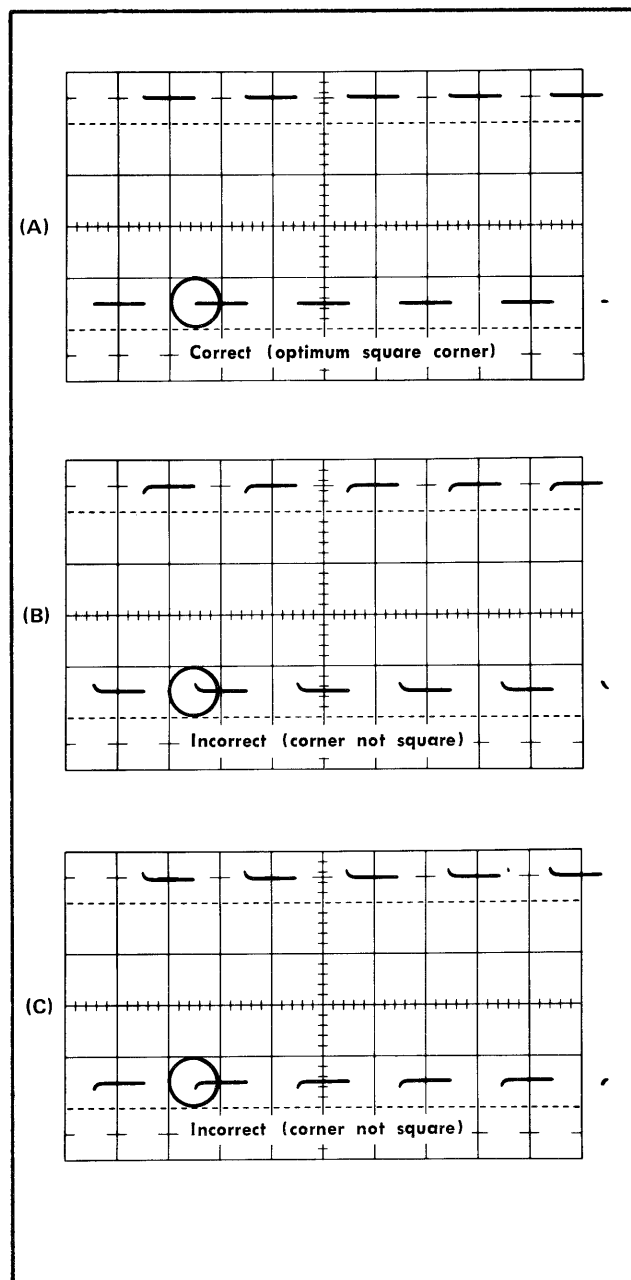

Fig. 5-8. Normalizing the 1X input time constant of input B.
29. Adjust C110 (Input A 1X Input Time Constant Normalization) ①
d. Adjust C110 (see Fig. 5-1) for best upper front corner on the square-wave display (waveforms will be inverted from those shown in Fig. 5-8).